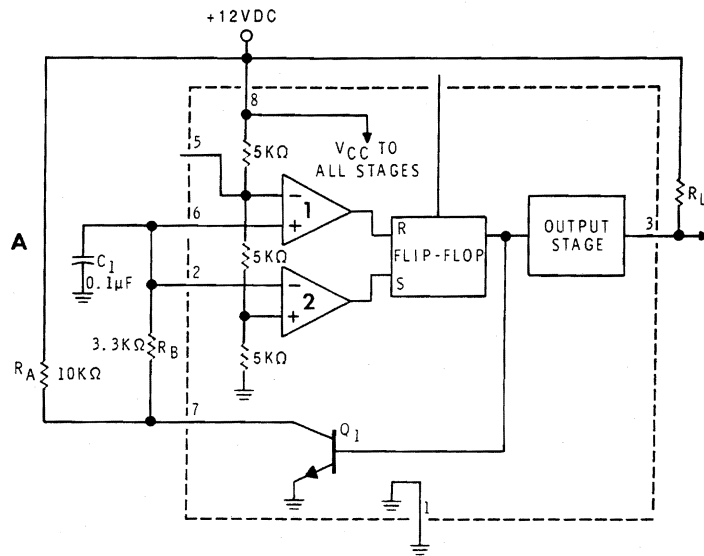

Figure 6-83
13. Refer to Figure 6-83. With the component values given, what is the output frequency?
14. Refer to Figure 6-83. Comparator 1 changes states when the voltage across  $C_1$  is: